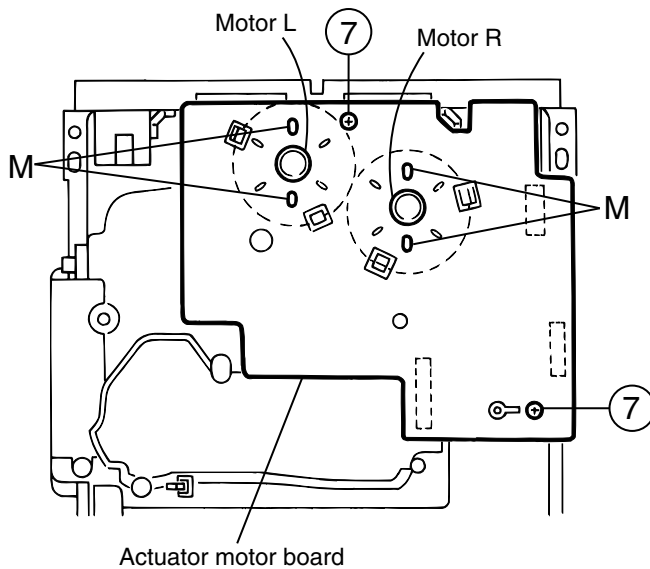

Fig.14
### ■ Removing the actuator motor board (See Fig.14, 15)
1. Absorb the four soldered positions "M" of the right and left motors with a soldering absorber(See Fig.14).
2. Remove the two screws 7 retaining the actuator motor board(See Fig.14).